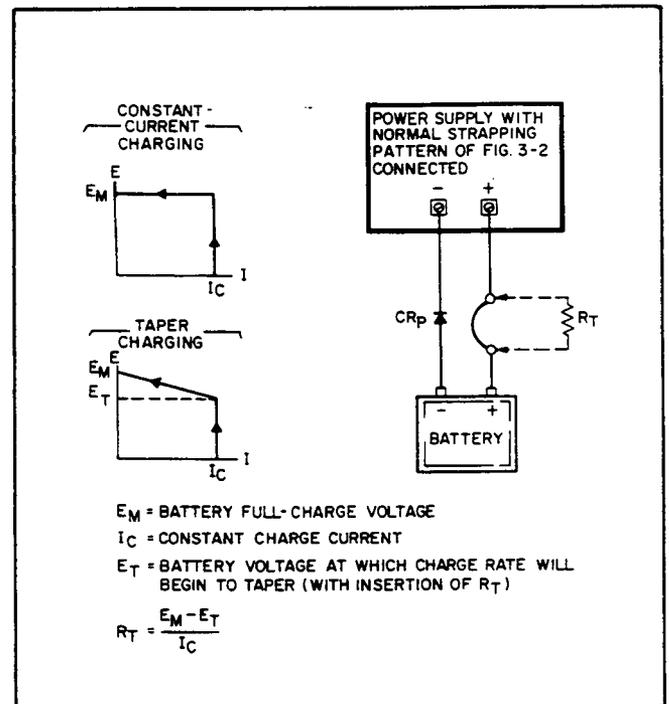

Figure 3-16. Battery Charging
*Any time these supplies are used to charge a battery, be sure to install a protective diode  $CR_P$  in series with the battery as shown in Figure 3-16 to prevent the battery from discharging into the supply if the supply is turned off. Extensive damage to the supply could result if this diode were omitted.*
- b. Connect a short circuit across the output terminals and rotate the VOLTAGE control fully clockwise (CW).
- e. Adjust the VOLTAGE control for an output voltage 0.7 volts greater than the desired full charge voltage. (The added 0.7 volts compensates for the drop across  $CR_P$ .) The supply may then be connected to the battery terminals, positive to positive and negative to negative as shown in Figure 3-16 (omit  $R_T$ ).
**3-90 Taper Charge.** When charging lead-acid cells, many manufacturers recommend that the charging current be reduced as the charge nears completion. This can be accomplished by inserting a small resistance ( $R_T$ ) in series with one of the load leads from the supply to the battery. (See Figure 3-16.) This resistor alters the normally rectangular charging plot in such a manner as to provide a taper charge for the last portion of the charge. The proper value for this resistor is the difference between the full charge voltage and the voltage at which the tapering is to start, divided by the initial charging current. Set the initial charging rate and full charge voltage as instructed in paragraph 3-89.